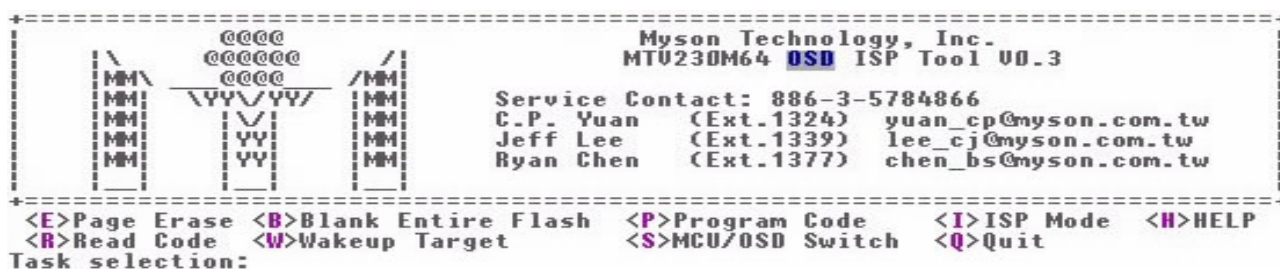

Figure 11 Entry to OSD mode
- Step2: Press the hot key **S** to change the mode to OSD mode (figure11)